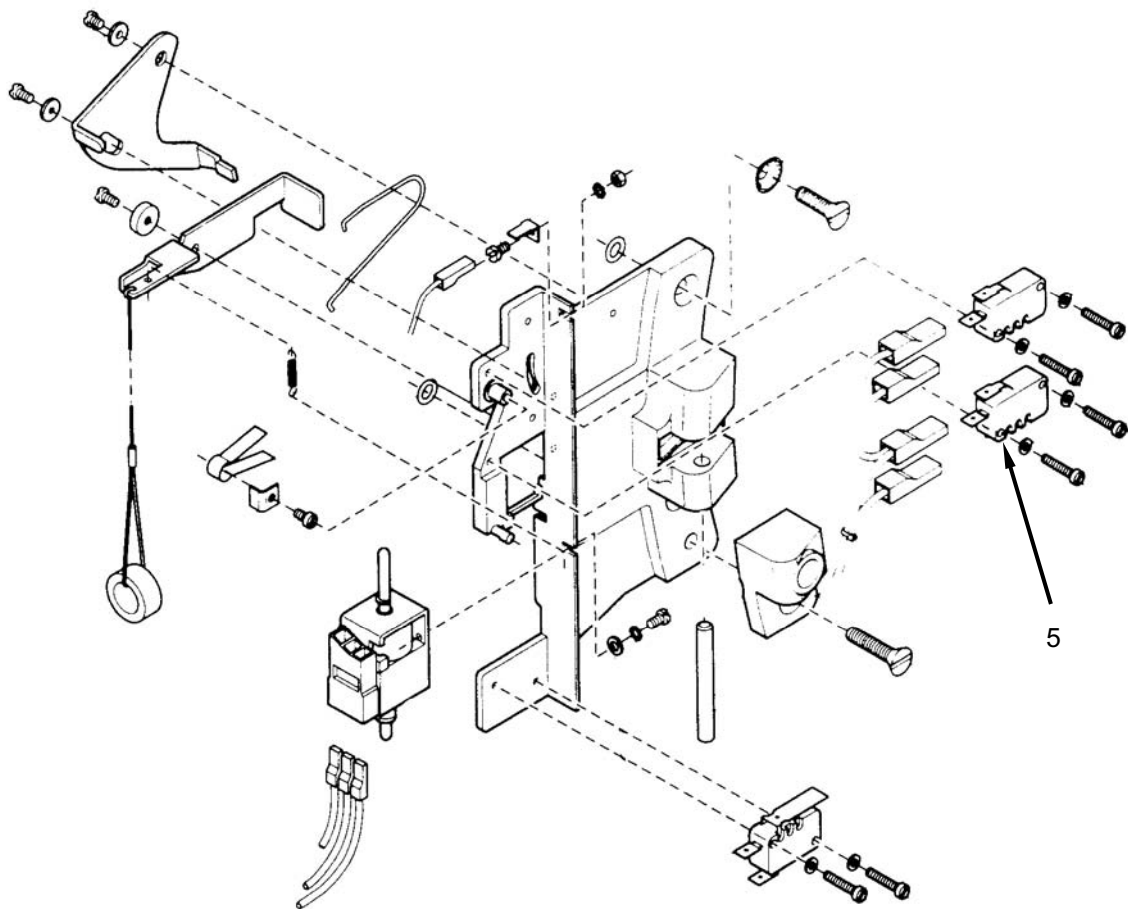

Figure 3. Test the Door Locked Switch.
2. Cut the wire ties (**Figure 3, Item 1**) retaining switch wiring to the washer frame. There may be one or two wire ties.
4. Remove screws retaining door strike assembly (**Figure 3, Item 2**), and remove door strike assembly.
5. Tag and disconnect wiring from lock switch (**Figure 3, Item 5**).
6. Use an ohmmeter to check for 0 resistance when the switch (**Figure 3, Item 5**) is closed.
7. Use an ohmmeter to check for infinite resistance when the switch (**Figure 3, Item 5**) is open.
8. Replace a switch (**Figure 3, Item 5**) which fails either test.
9. Connect wiring to switch (**Figure 3, Item 5**) as tagged.
10. Install door strike assembly (**Figure 3, Item 2**) and retain with screws.